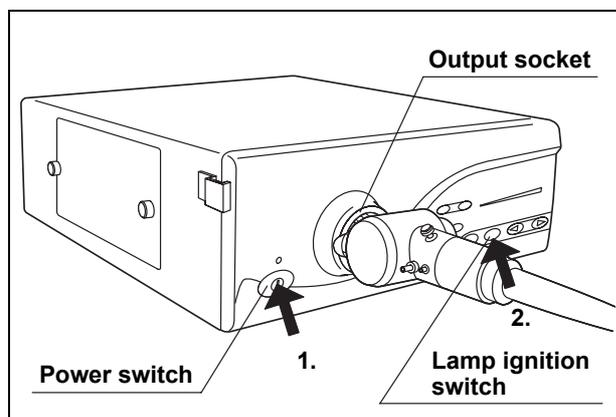

Figure 5.1
1. Confirm that the endoscope is connected to the output socket, and press the power switch (see Figure 5.1).